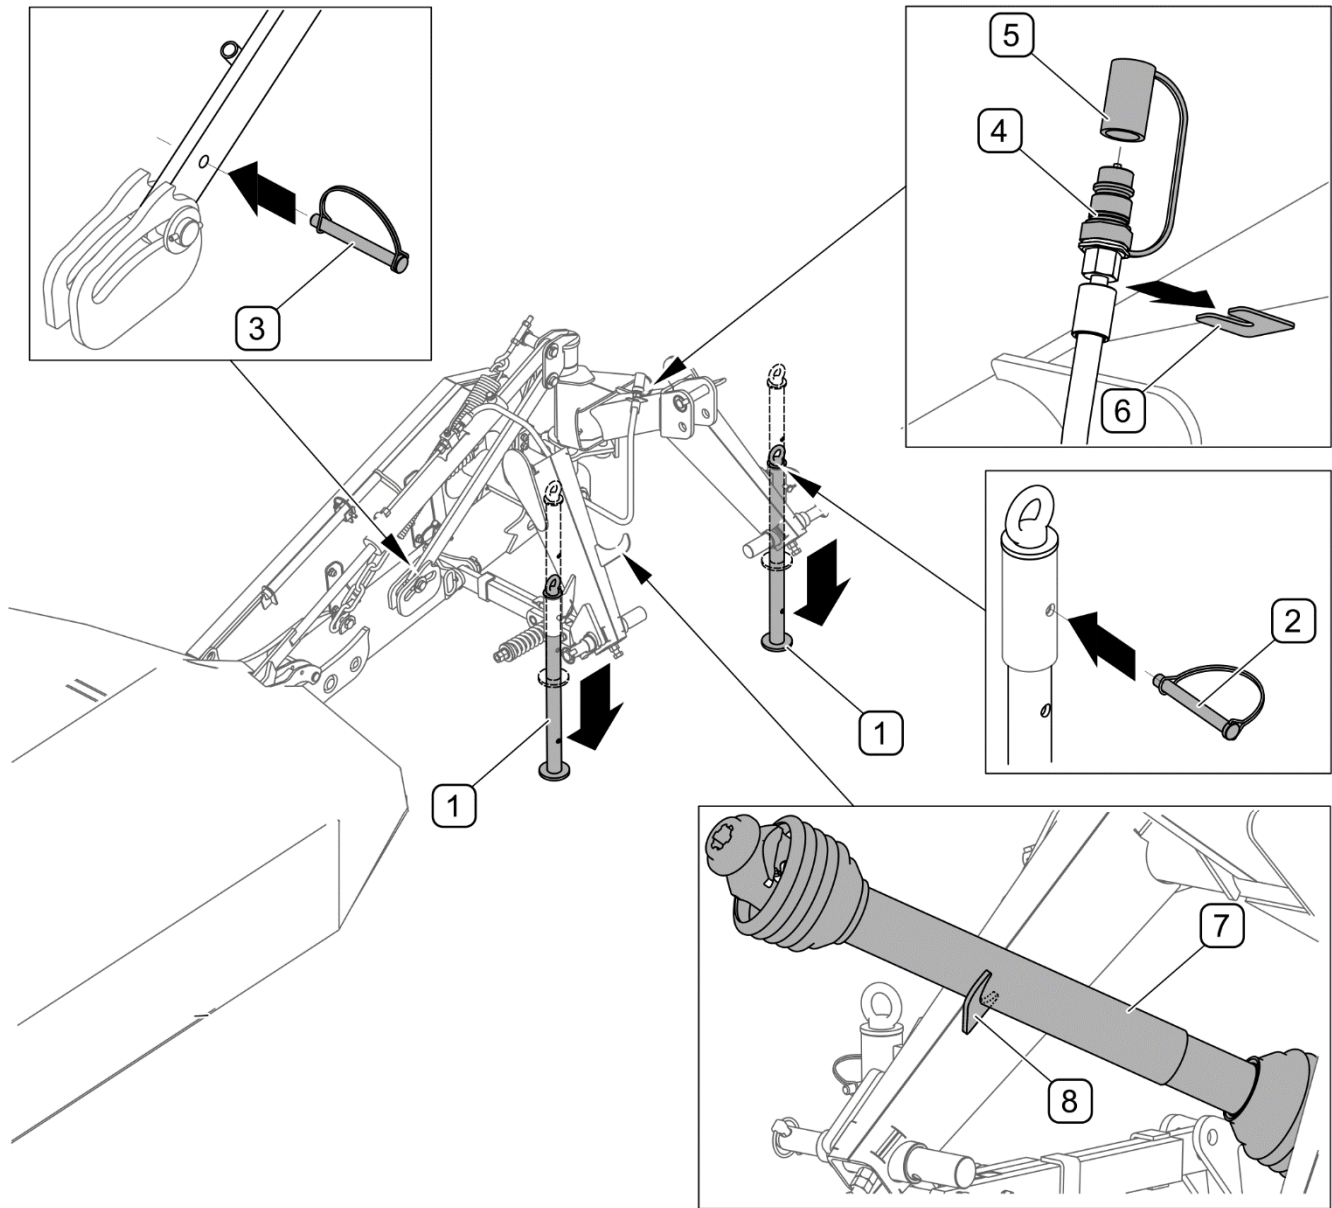

FIGURE 4.15 Disconnecting mower from tractor
Before disconnecting mower from the tractor linkage, lock bearing beam with the aid of cotter pin (3) (FIGURE 4.15). Do NOT disconnect mower from tractor without locking the beam.
In order to disconnect the mower from the tractor (FIGURE 4.15) proceed as follows: